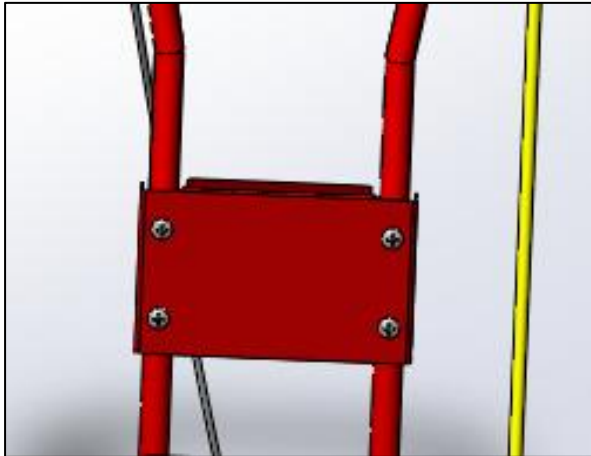

Figure 1
1. Remove handle brace, nuts, and bolts. Align the handle, lower support, and handle brace holes. Use all six nuts and bolts. Leave bolts loose until steps 2 and 3 are completed (Figure 1).
2. Install control rod into upper and lower pivot holes and secure with cotter pins (Figure 1). Oil pivots lightly before installing rod.